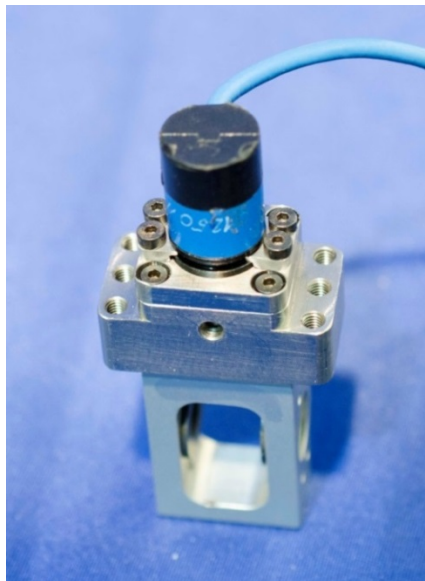

Figure 9-8. Install Y-axis potentiometer pot clamps
- 9.2.2.4 Install the two Pot Clamps (472-4746) using two M2 x 0.4 x 5 SHCS per clamp (Figure 9-8).